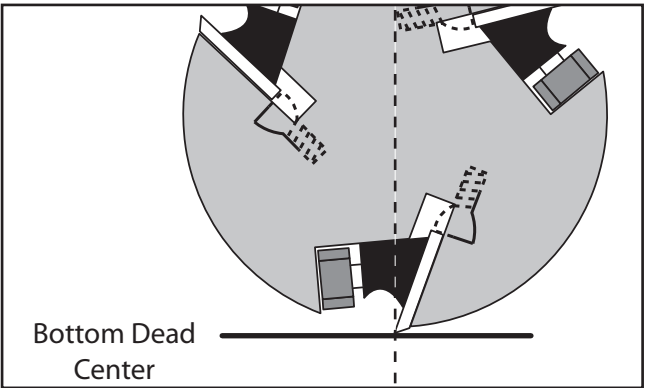

Figure 37. Knife edge at bottom dead center.
*BDC = Bottom Dead Center (see **Figure 37**).